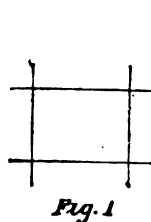
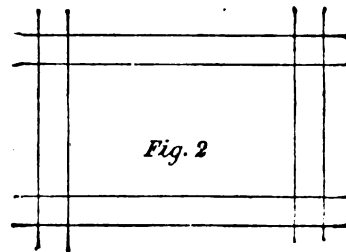

Fig. 1
Fig. 2
**Setting Out Buildings.**—The method of setting out a building on the ground very much depends on the size of the building and the nature of the ground. In important work it is necessary to employ a theodolite, but in common work a few strings and pegs are all that are required. The lines should always run beyond the net limits, as, for instance, Fig. 1, representing the lines for a rectangular pier, and Fig. 2, showing wall trenches. In general building the first thing will be to sight through to obtain the frontage line, then to range a line at right angles for the flank wall, and afterwards to put in the other lines parallel with the lines already obtained. To get a right angle, a large framed set-square, such as is found in various departments on a building, or a cross staff, or an optical square, may be used, or advantage may be taken of the property of a triangle whose sides